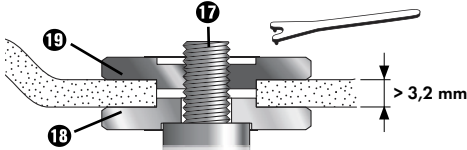

Fig. 2
**With thick grinding discs (see fig. 2)**